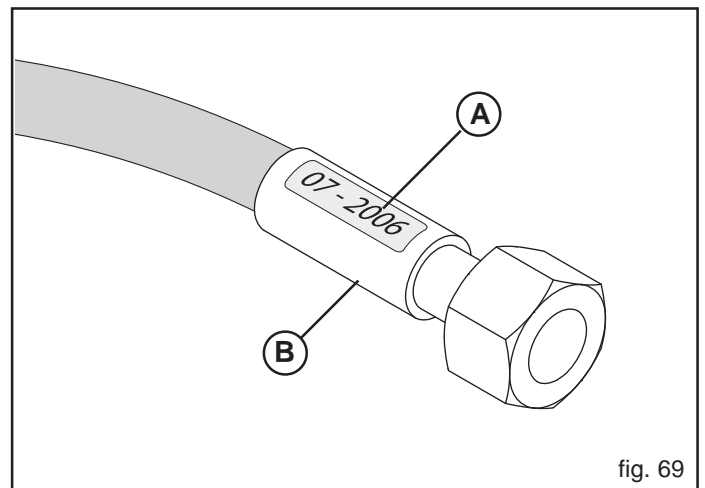

fig. 69
- when leaks are identified near the pipe sheath (B, Fig. 69);
- when the sheath is corroded (B, Fig. 69);
- 5 years after their manufacture (A, Fig. 69).